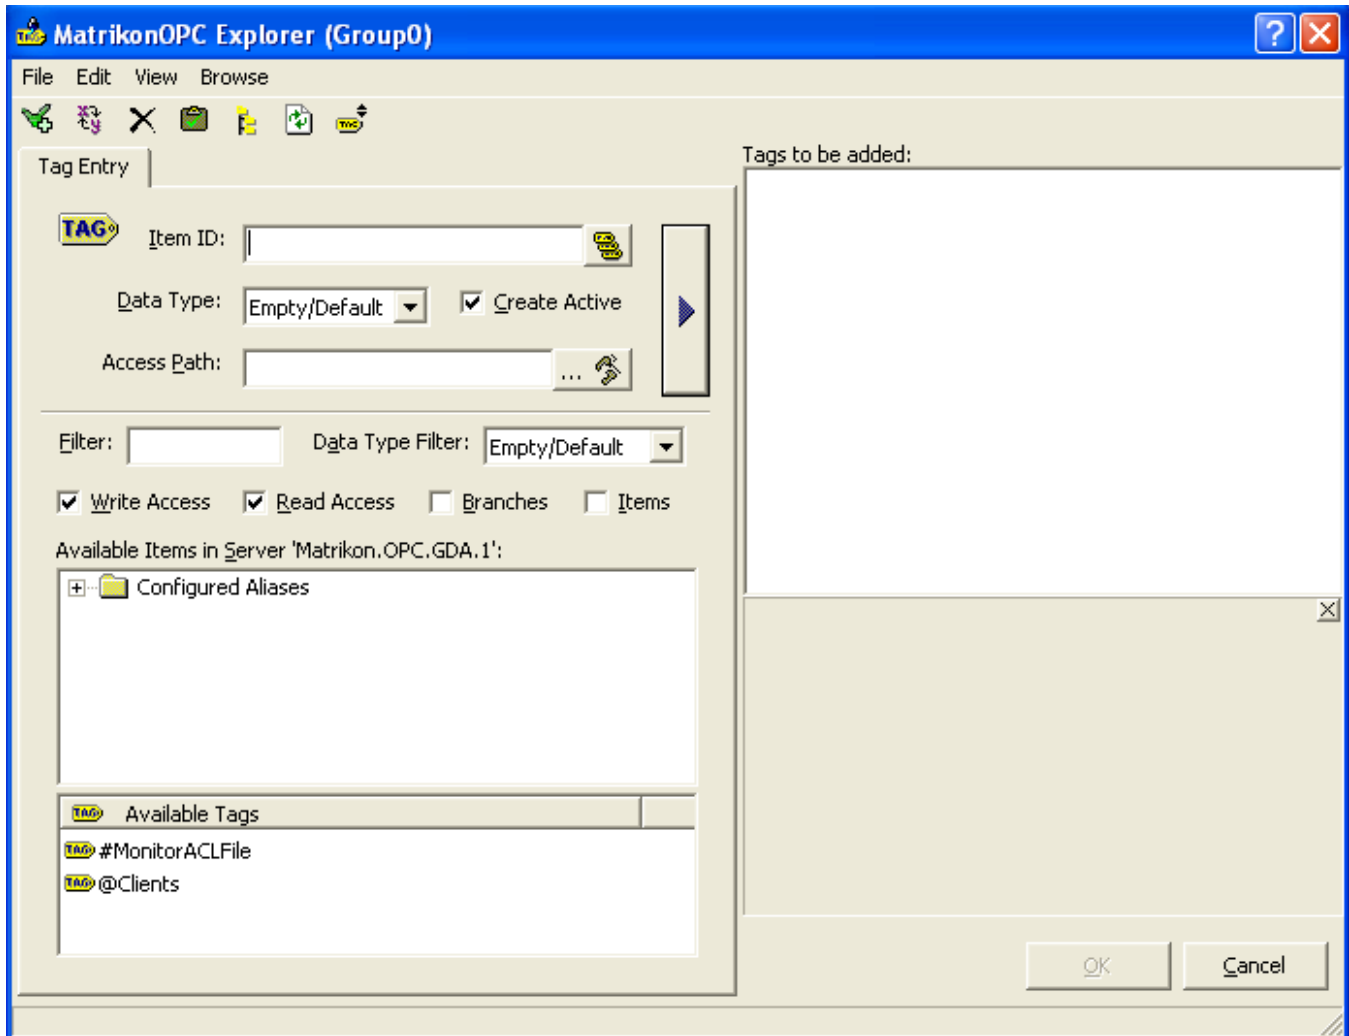

Figure 104 - MatrikonOPC Explorer (Tag Entry Tab)
9. Click on the **OK** button. The **Add Group** window closes and the **Tag Entry** tab (Figure 104) is displayed on the **MatrikonOPC Explorer (Group0)** screen.